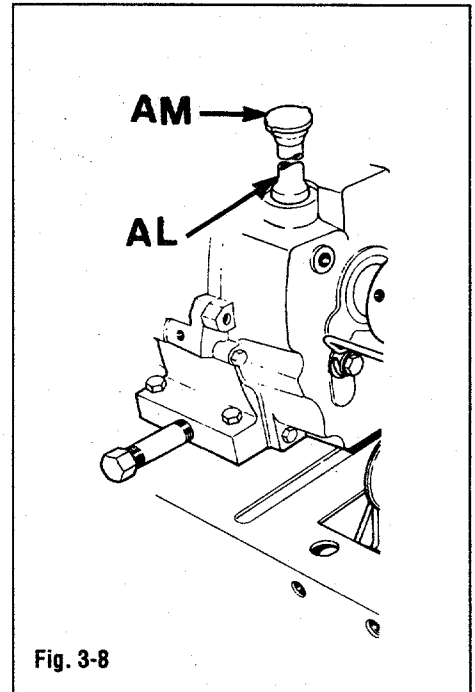

Fig. 3-8
1. Unscrew oil fill cap (AM, Fig. 3-8) and place aside. Insert a clean funnel into oil filler tube (AL).